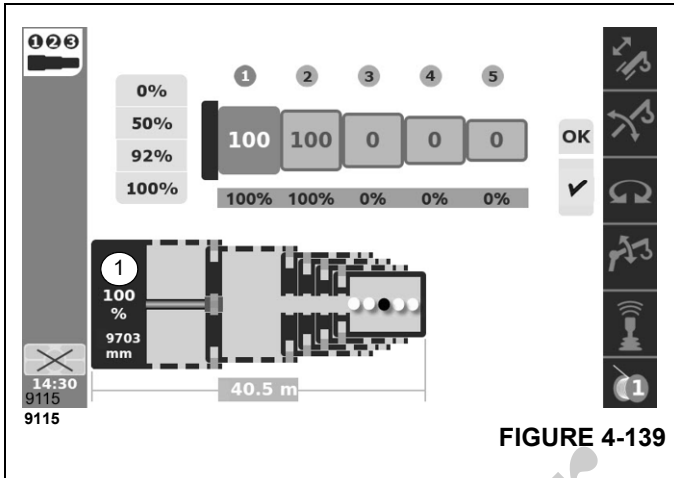
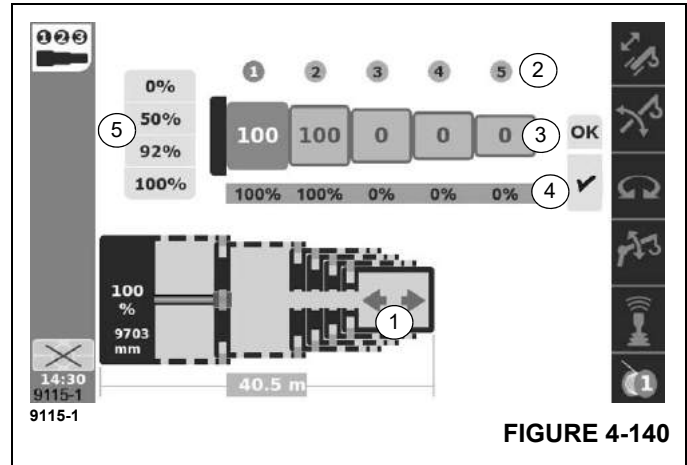

FIGURE 4-139
FIGURE 4-140
The Semi-auto screen of the operating display (refer to Figure 4-139) shows a graphic schematic near the bottom of the screen that indicates the current status of the boom computed by the control system (however the operator must continue to monitor the status of the physical boom to compare with this schematic). In (Figure 4-139), there is a 100% (1) shown for the position of the telescoping cylinder (above the 9703 mm distance value). The graphical representation of the telescoping cylinder rod protrudes horizontally from the left end of the schematic (near item 1). The end of the graphical representation of the rod at the T1
The example in (Figure 4-139) shows the value of 9703 mm for the extension of the telescoping cylinder within the boom. This is the value from the precision length sensor. The example also shows a value of 40.5 meters as the overall boom length. The example shows the T2 boom section had been previously extended and locked at its 100% pinning location. The remaining boom sections are locked at their 0% pinning location (and they were all extended as the T2 boom section extended).
As mentioned earlier, there are times when the control system is performing automated motions. The example in (Figure 4-139) shows some dots at the end of the schematic graphic. These dots, as well as the one dark dot cycling back and forth to the left and right, indicates that automated motions are occurring.
(Figure 4-140) shows the same screen when the operator is able to control motions of the boom sections. In this case, there is a left and/or right pointing arrow, instead of the dots shown in (Figure 4-139). As is consistent with the schematic's orientation, the left arrow indicates retracting the boom, the right arrow indicates extending the boom. The control device (typically the joystick in the standard joystick option) would be moved to the left to retract the boom, and it would be moved to the right to extend the boom (while keeping in mind that only one boom section - the boom section the telescoping cylinder is locked to - would be moving).
As highlighted in a previous note in this document, these arrows (1), (Figure 4-140) at some point in the telescoping process, will blink. The blinking is an indication that an unlocking or locking event will occur if the operator holds the joystick in the direction of that arrow for at least 1 second. If this event begins, then the screen will change to the dots, as described for (Figure 4-139) so that the operator knows that an automated motion or action is again occurring.
As seen in (Figure 4-140), there are sets of numerical values at the top portion of the screen above the graphical schematic of the boom.
The values under these boom section indication numbers represent the requested final boom configuration (or "target tele picture"). (Figure 4-140) shows this set of values as 100-100-0-0-0 (3). This means that T1 is to be extended to its 100% pinning location, T2 is to be extended to its 100% pinning location, and the remaining boom sections remain at their fully retracted, 0%, pinning locations. It is vital that the operator understand that this requested final boom configuration is the first step in operating the pinned boom in the Semi-auto Mode. Everything the control system performs with the Semi-auto Mode is dependent on this requested final boom configuration.
Second, there is a set of percentage values shown under the requested final boom configuration values. In (Figure 4-140), these are shown as 100%-100%-0%-0%-0% (4). This represents the control system's currently computed actual boom configuration (or "actual tele picture"). This can be understood as what the boom likes "now" (but as mentioned above the operator must be aware of the physical boom to compare to these values). As the boom is operated this computed boom configuration will change (just as the schematic graphic for the boom system will change on the display). But the operator should realize that the requested final boom configuration will not be changing as the boom is operated (it is the final destination for the boom motion).
- Using the operating display, the Enter button is used for the OK shown on the screen. This sends the requested data to the control system. If this configuration is considered acceptable, a check-mark will be shown below the OK (as is seen in Figure 4-140). If the configuration is not considered acceptable, a red X will be shown instead of the check-mark. As an example, a requested final boom configuration of 0-50-0-50-0 is not allowed (the T3 section was "skipped" for having a non-0% pinning location).
- Once the boom section is unlocked, the telescoping direction arrows, as shown in (Figure 4-140), will appear.
- When the T1 boom section is unlocked, the left and right telescoping direction arrows will appear again (as is shown in Figure 4-140).